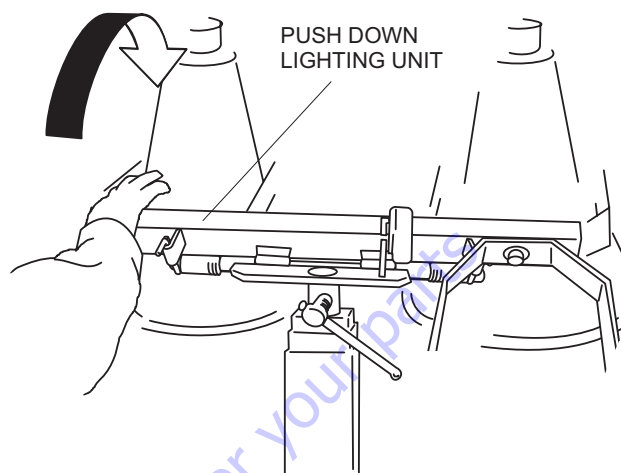

Figure 19. Pushing Down Lighting Unit
4. Push down the lighting unit (Figure 19). Some force is required when pushing down because of the installed springs.